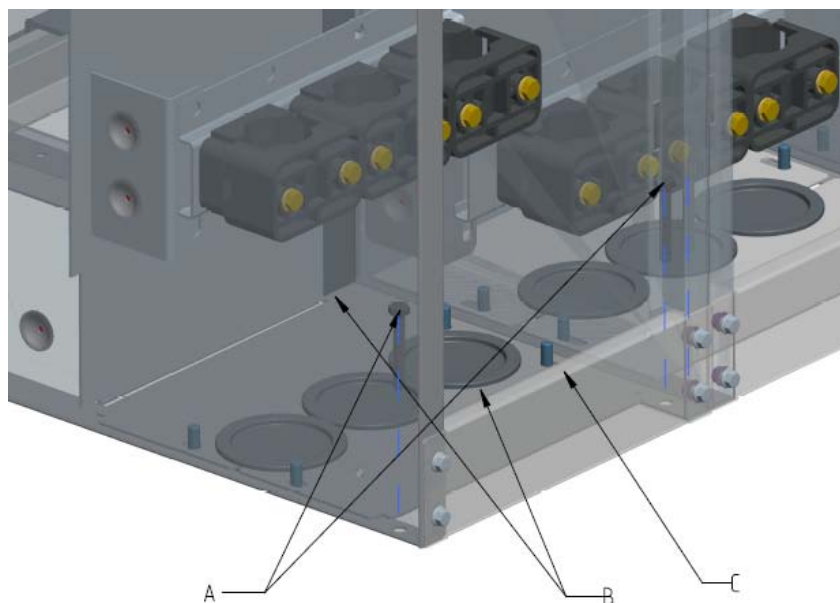

Figure 18: Positioning: Anchoring a DR-6C medium-voltage cubicle
- Anchor each functional unit to the floor using two bolts (A). Use the provided openings as seen in Figure 18. If required, the anchoring can happen after disassembling the floor panels (B) and the front panel of the cable compartment (C).